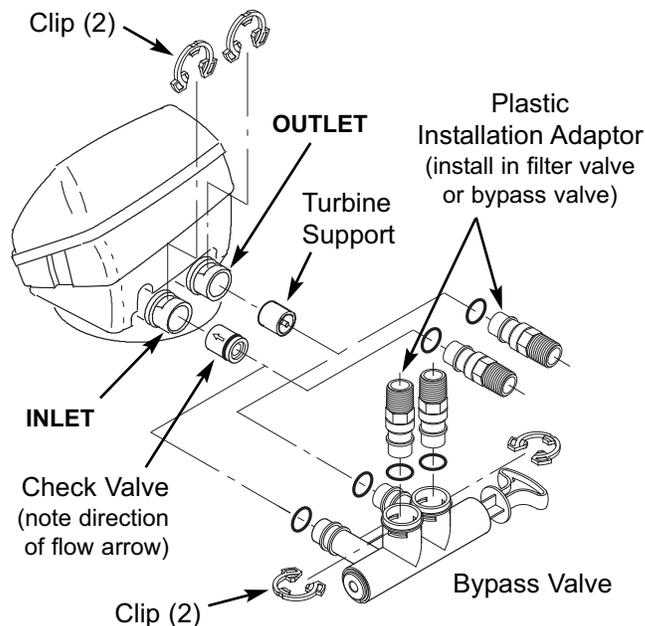

FIG. 9
- Be sure the check valve is in place in the valve inlet, with the flow arrow pointed inward, as shown in Figure 9.